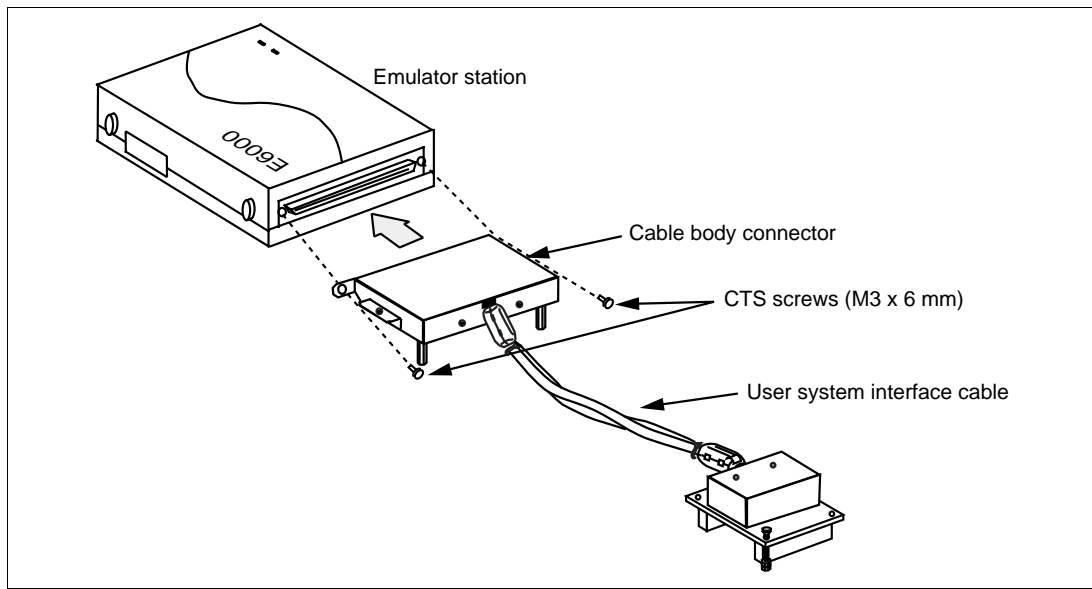

Figure 2 Connecting User System Interface Cable to Emulator Station
2. After making sure the direction of the cable body connector is correct, firmly insert the cable body connector into the emulator station socket, and fasten the emulator station with two CTS screws (M3 x 6 mm) (figure 2).